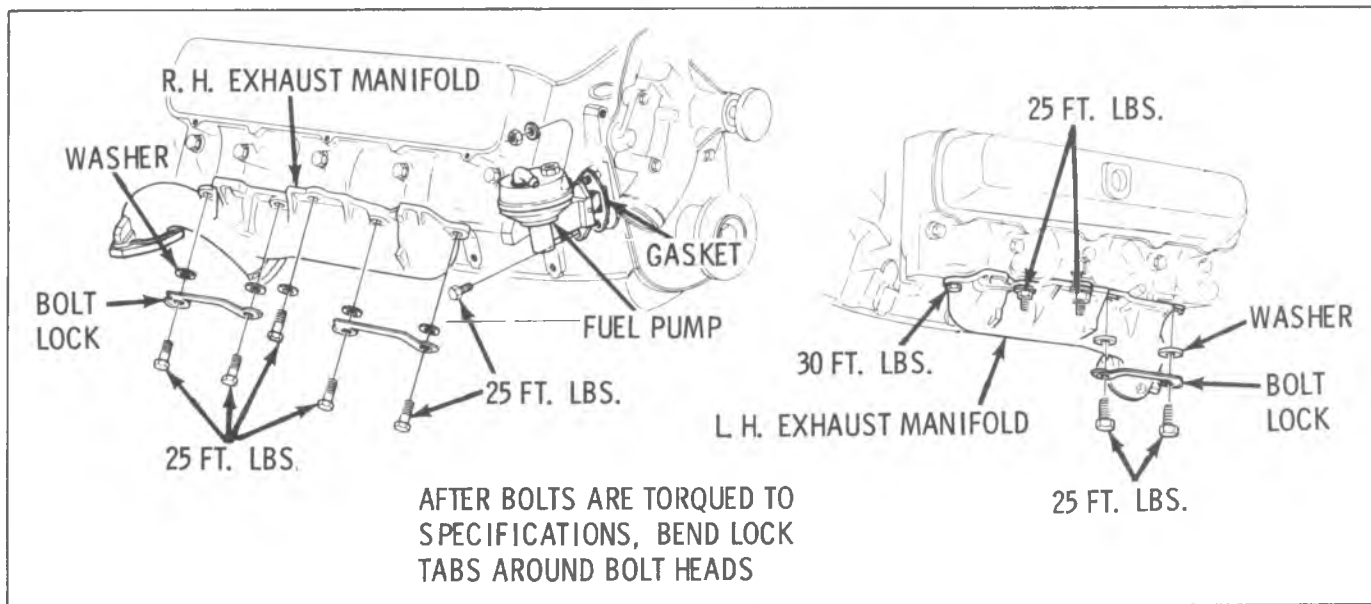

Fig. E-3—Exhaust Manifold Bolts
- See Fig. E-3 for bolt torque when installing.